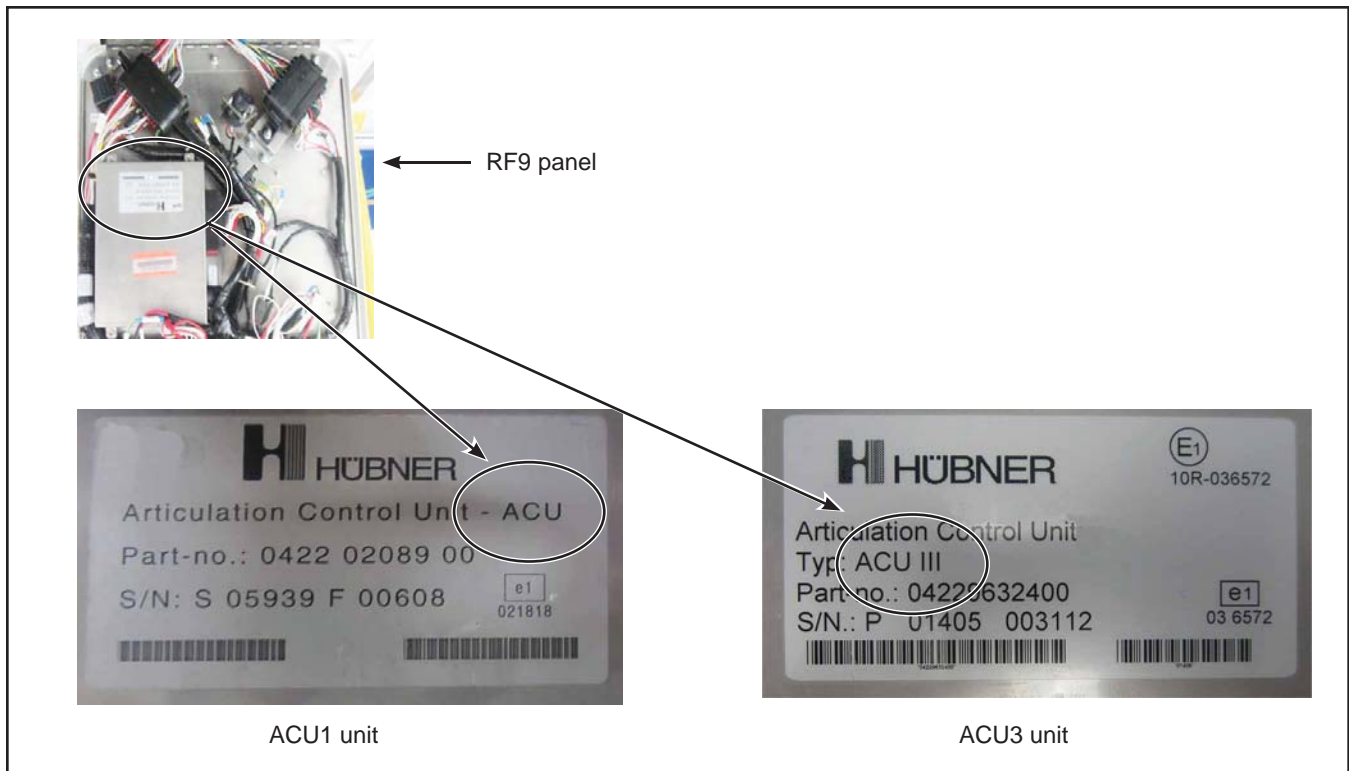

Figure 1 - Location and Identification of the ACU in the RF9 Panel
- 1.2. Identify the ACU unit installed. See Figure 1.